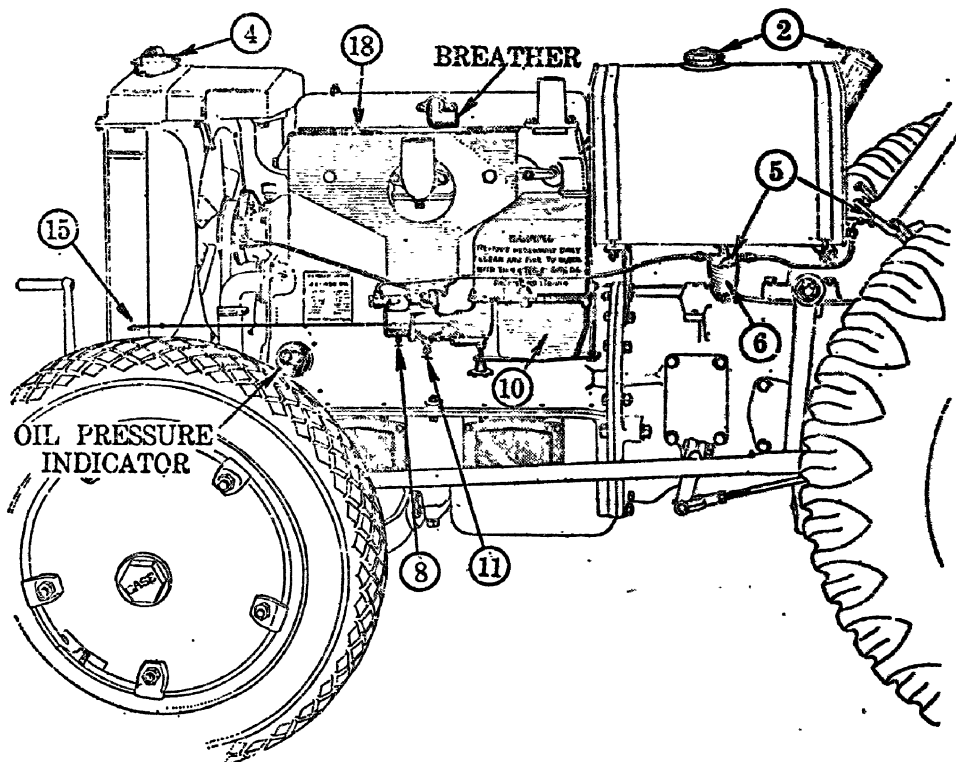

Fig. 1. L. H. Side of Case Model CI Tractor
2. Fig. 1. Make sure that air vent holes in carburetor and caps of fuel tanks are open. Vent hole in carburetor is on side of carburetor toward engine block but can be cleaned by using a small wire.
4. Fig. 1. Fill radiator with clean, soft water (capacity 5 U. S. gallons).